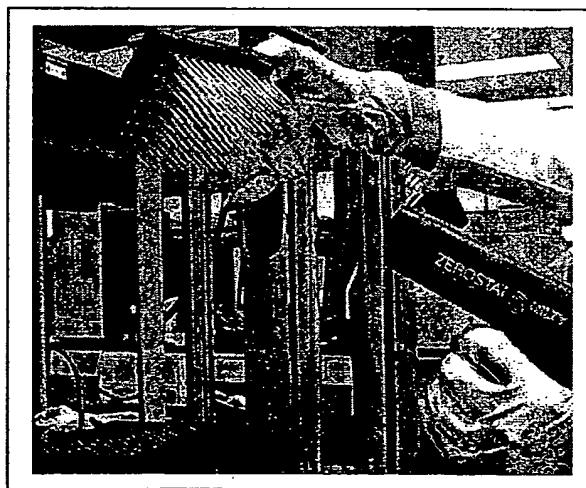

Figure 4.17
3. Controlling static electrical interference: Static attraction can cause pipette tips to cling to the heads and to each other. To control static attraction, use non-sterile, RNase/DNase free tips and use a static gun to remove static discharge. See Figure 4.16 and Figure 4.17.